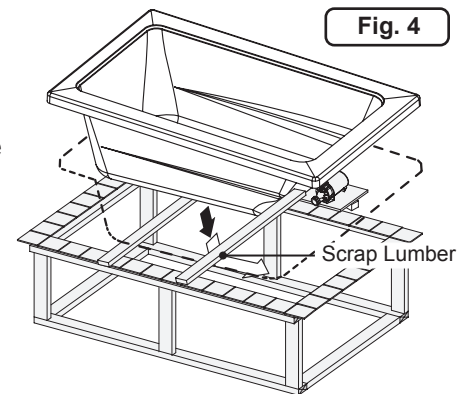

Fig. 4
- Place a piece of scrap lumber on each of the ends of the cutout – this will be used as a temporary support prior to lowering the bathtub fully into the opening (Figure 4).